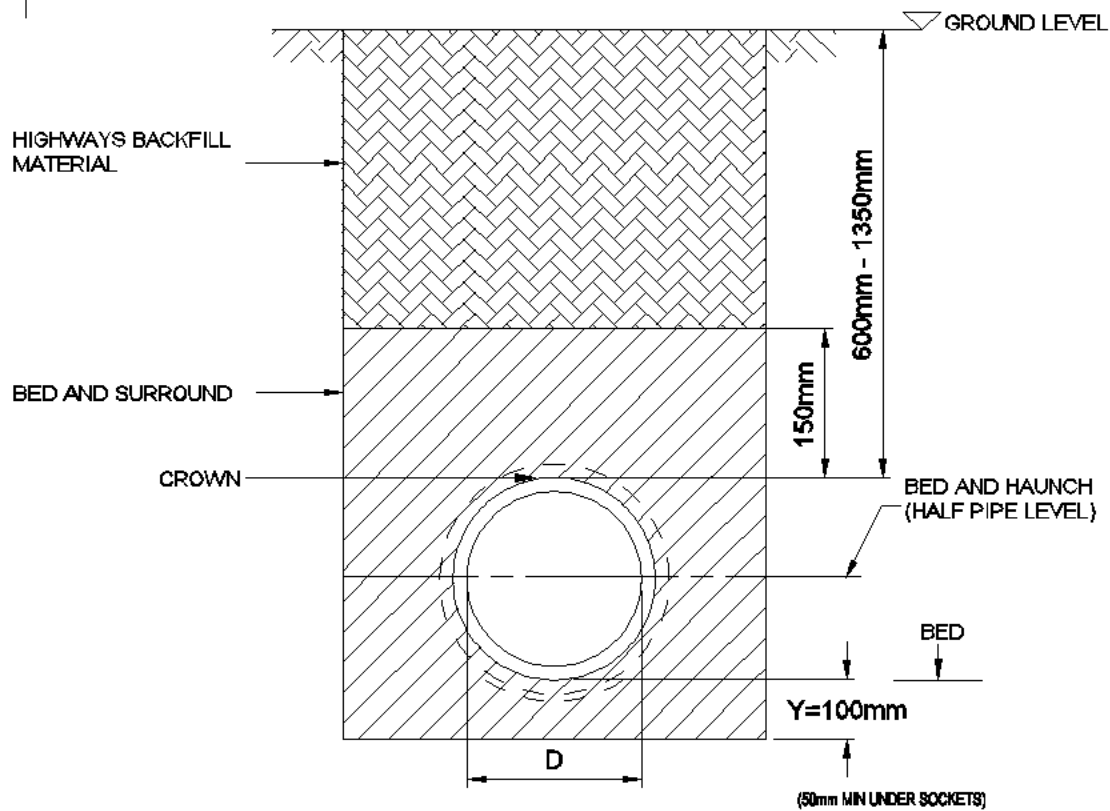

Figure 1 Diagram Showing the Range of Depths for Affinity Water's Pipes
3. Typically water mains are laid at a depth of 900mm. The exact depth of a specific asset may be unavailable but can vary between 750mm and 1500mm as shown in Figure 1. There may however be instances where pipelines cross other utilities' plant, roads, railways or rivers where AWL pipes could be significantly deeper, occasionally mains are laid at shallower depths. Asset information will not include information on service pipes, which normally have a depth of 750mm. Their position can be inferred from the position of stop taps and meter box covers. In all situations the potential existence of small supply pipes should always be anticipated and all endeavours to ensure they are located prior to the use of mechanical equipment.